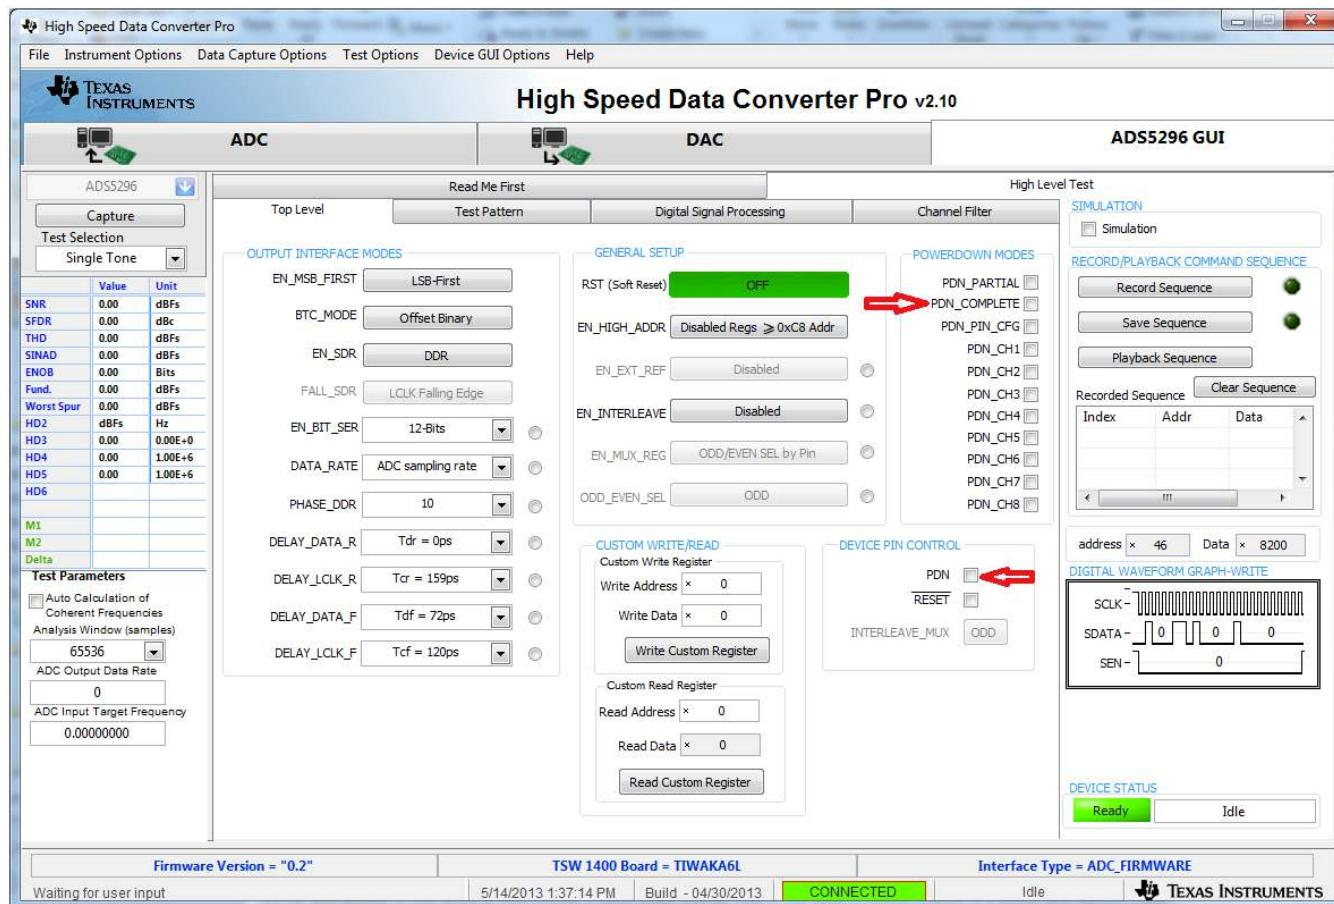

Figure 30. ADS5296 Plug-in GUI Setup (c)
Clicking on the *High Level Test* tab shows four sub-tabs: *Top Level*, *Test Pattern*, *Digital Signal Processing*, and *Channel Filter* as shown in Figure 30.
- Verify that communication between the ADS5296 EVM and the ADS5296 GUI is established by toggling either **PDN_COMPLETE** checkbox or the **PDN** checkbox highlighted on Figure 30. Checking either box should make +5-V power supply current drop from ~850 mA to ~563 mA. If the DC current is approximately 600 mA with both power down boxes unchecked, it indicates that the ADS5296 is not receiving the sampling clock. Please ensure that the 3-pin headers are configured as described in Section 3.2. Before continuing, ensure that both power down boxes are left unchecked. At this point, the GUI is confirmed to be communicating correctly with the EVM and testing can begin.